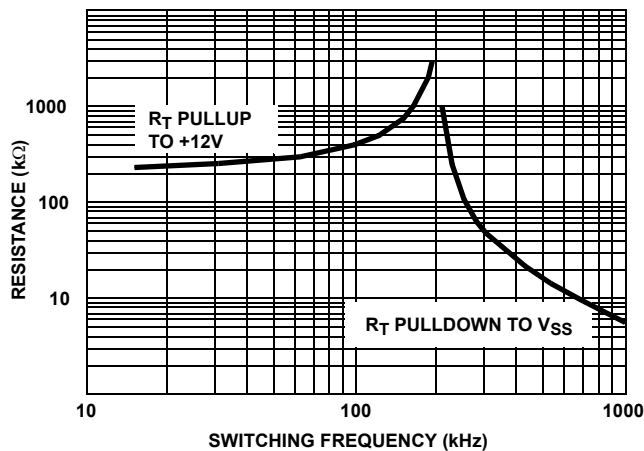

FIGURE 1.  $R_T$  RESISTANCE vs FREQUENCY
**Electrical Specifications** Recommended Operating Conditions, Unless Otherwise Noted. Refer to Figures 1, 2 and 3
**Electrical Specifications** Recommended Operating Conditions, Unless Otherwise Noted. Refer to Figures 1, 2 and 3 (Continued)
The HIP6020 monitors and precisely controls 4 output voltage levels (Refer to Figures 1, 2, and 3). It is designed for microprocessor computer applications with 3.3V, 5V, and 12V bias input from an ATX power supply. The IC has 2 PWM and two